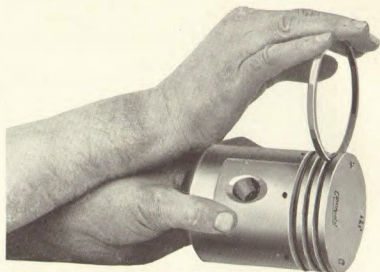
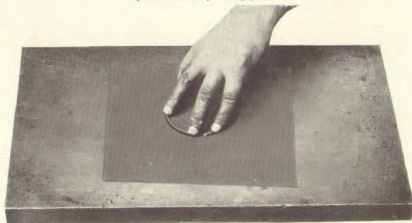

Fig. 25
Fig. 26
All rings should be true as regards width and just wide enough to be a light "rolling" fit, each in their respective grooves. See Fig. 25. If the ring is of the correct width and not "snaky," it should remain suspended in the groove. Should the ring be too wide (which will seldom be the case) it can be reduced to fit its groove by lapping on a sheet of (000) emery cloth, this emery cloth having been placed on a surface plate or other flat surface. Fig. 26. The mechanic, however, should be sure that the pressure on the ring is the same at all points. Each ring should have .0015" clearance in its groove.